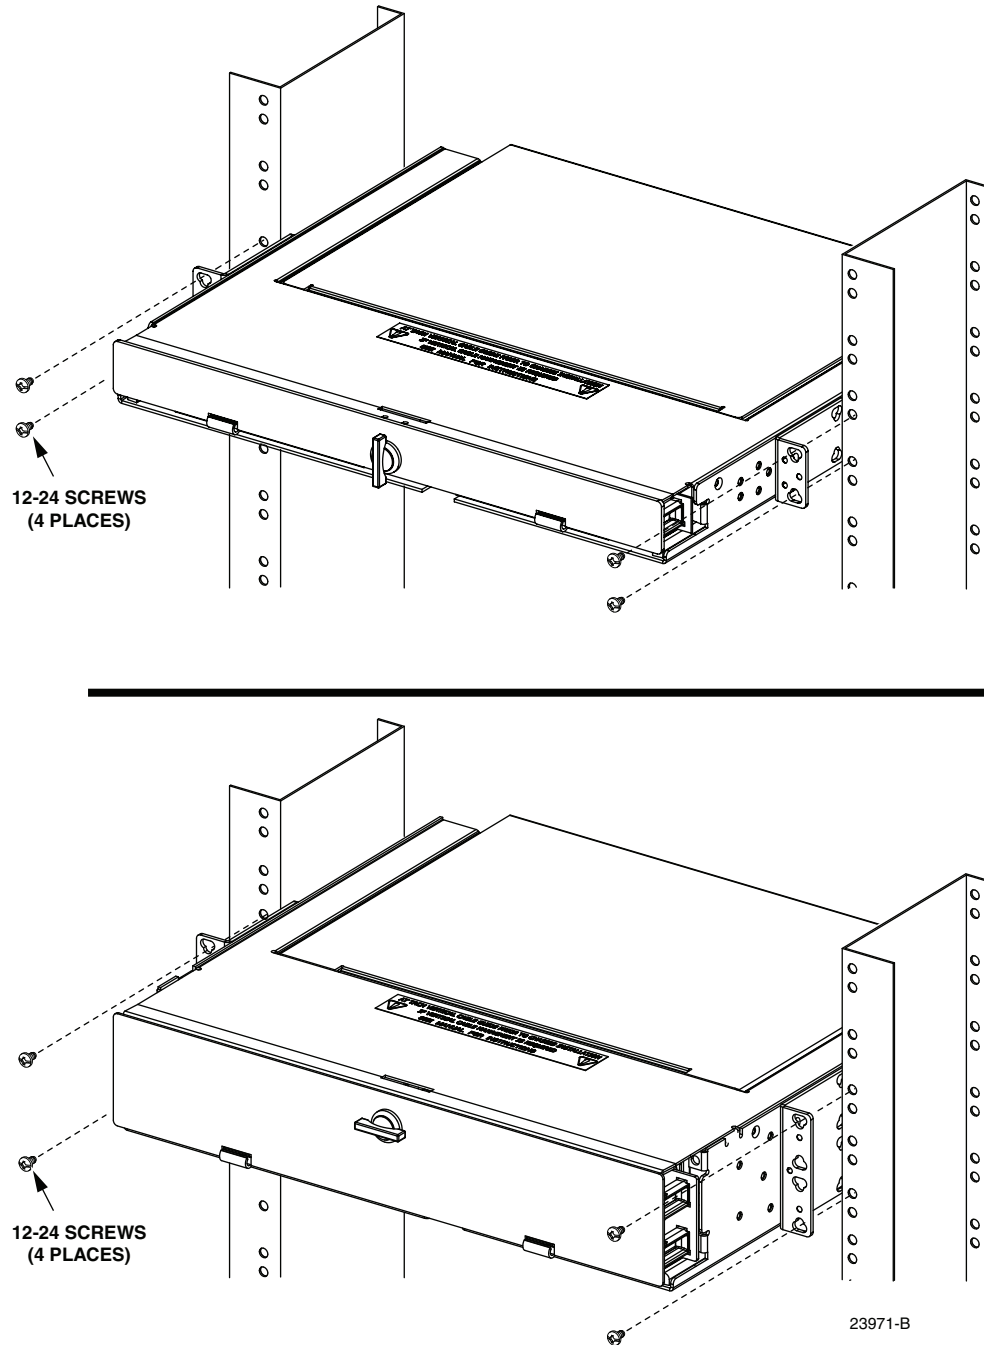

Figure 5. Installing the Panel on the Rack
Using 12-24 screws, secure the panel on the rack as shown in Figure 5.
► **Note:** Figure 5 shows the 1U and 2U fiber panels installed in a 19-inch rack with a 5-inch recess.